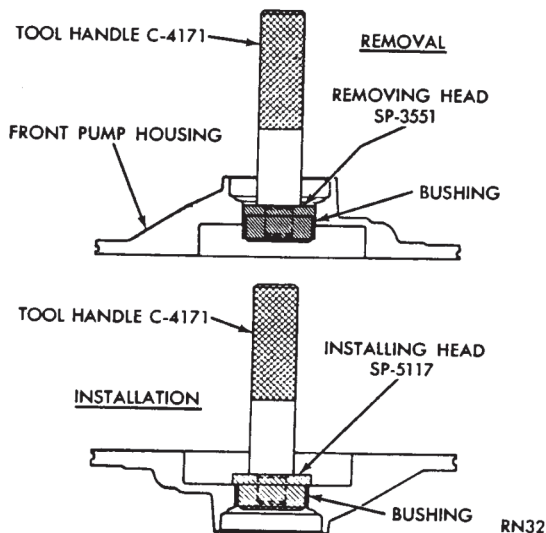
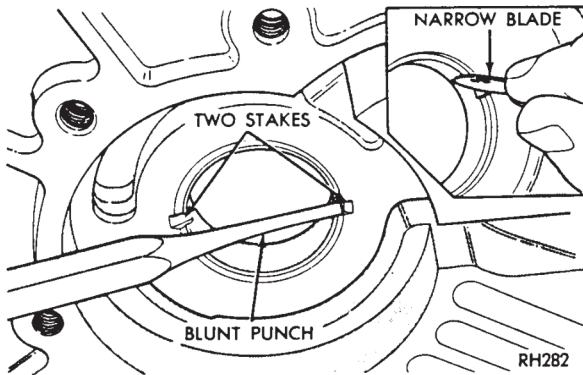

Fig. 10—Replace Pump Bushing (A-904T and A-999)
Fig. 11—Stake Pump Bushing (A-904T and A-999)
- (1) Place pump housing (seal face down) on a smooth, firm surface.
- (2) Place removing head, Tool SP-3551 in bushing and install handle Tool C-4171 in removing head (Fig. 10).
- (3) Drive bushing straight down and out of pump housing bore. Be careful not to cock tool in the bore.
- (4) Position new bushing on installing head Tool SP-5117.
- (5) With pump housing on a smooth, clean surface, start bushing and installing head in the bushing bore. Install handle in the installing head (Fig. 10).
- (6) Drive bushing into housing until tool bottoms in the pump cavity. Be careful not to cock tool during installation.
- (7) Stake bushing in place by using a blunt punch or similar tool (Fig. 11). A gentle tap at each stake slot location will suffice.
- (8) Using a narrow-bladed knife or similar tool, remove high points or burrs around staked area (Fig. 11). Do not use a file or similar tool that will remove more metal than is necessary.